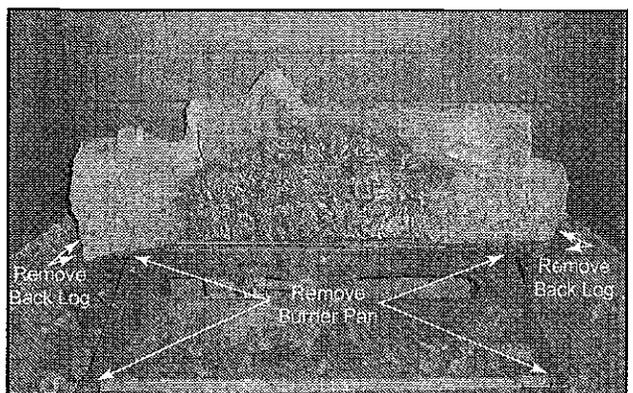

Figure 3.9 Remove Rear Log
- Remove four screws securing the rear log (Figure 3.9). Lift rear log and remove from firebox.
- Remove the main burner by removing four screws (Figure 3.9), one at each corner. Slide the burner to the left and lift out. Set aside.